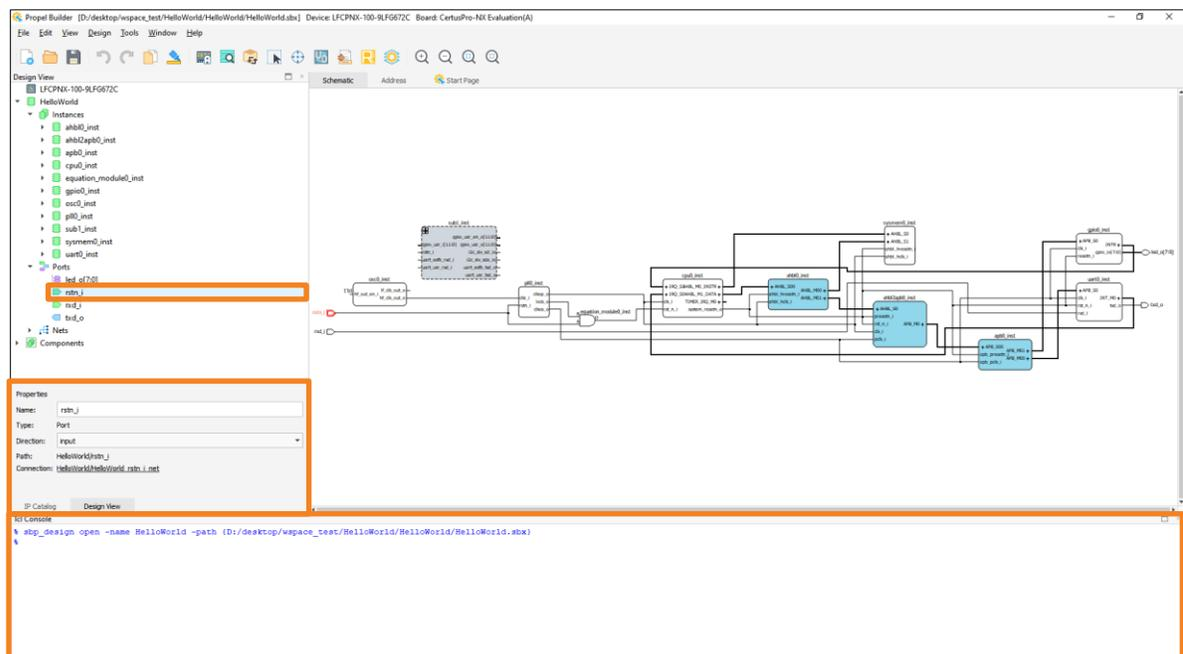

Figure 2.68. Properties of Port
- a. Click on a port, **Properties** window open (Figure 2.68).